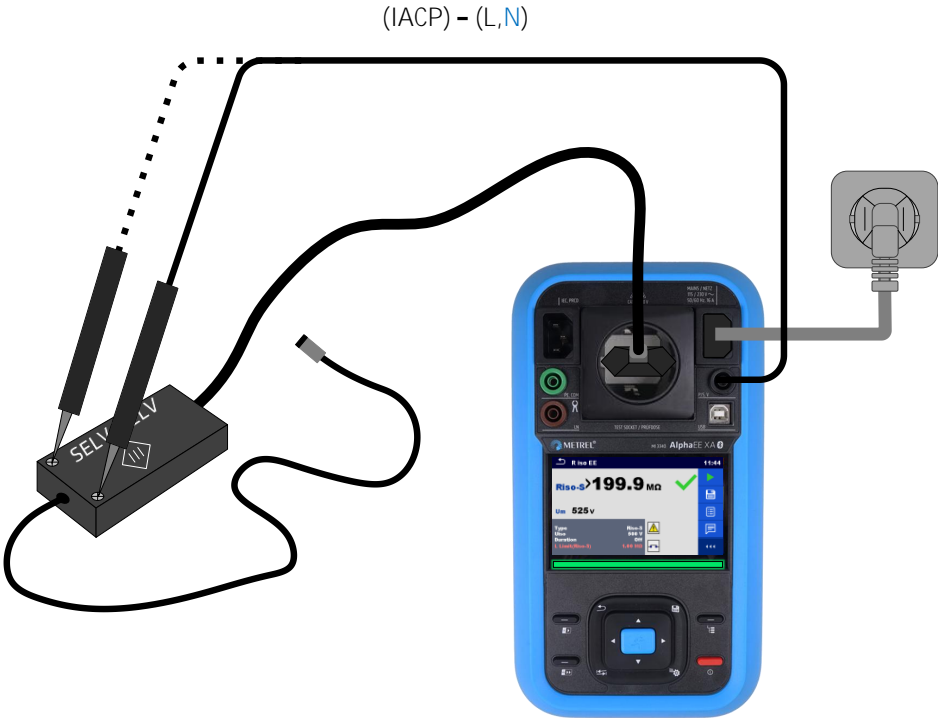
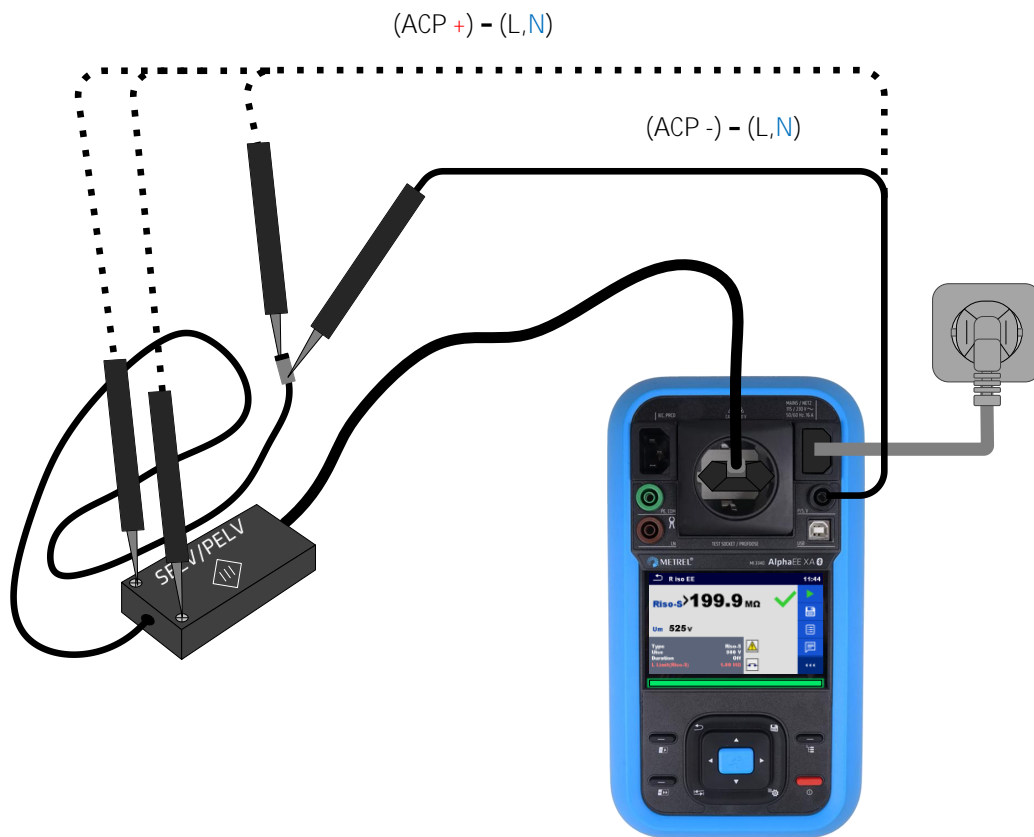

Figure 187_Insulation resistance Class II, ClassIII
Figure 189_Insulation resistance Class I, Class II
- Connect the DUT according to the connection diagram Figure 185_Insulation resistance Class I, Figure 187_Insulation resistance Class II, ClassIII , or Figure 189_Insulation resistance Class I, Class II